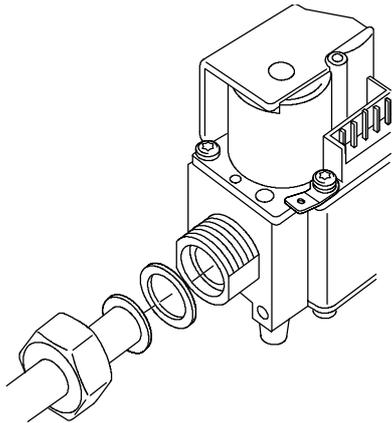

Fig. 17. External thread connection with nut and flat sealing ring
③ **With nut and flat sealing ring for pipe 15 mm (see fig 17.)**
④ **With nut and flat sealing ring for pipe 18 mm (see fig 17.)**